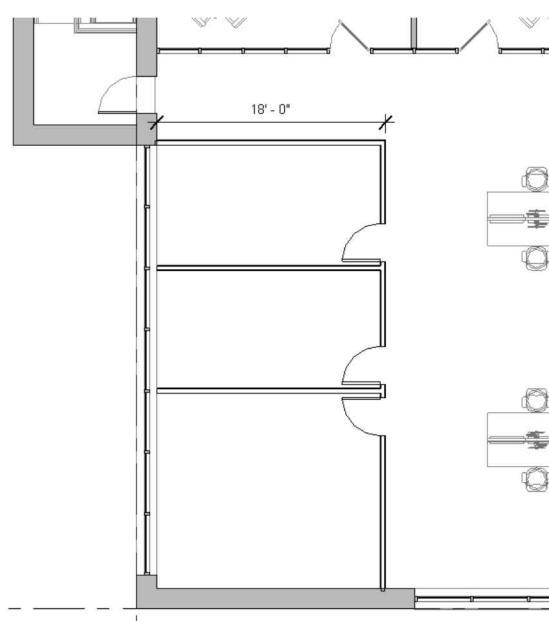

FIGURE 16-3.14
38. In the **Level 2 – New** floor plan view, add the walls and doors shown in Figure 16-3.14; center the two walls on the exterior curtain wall mullions.